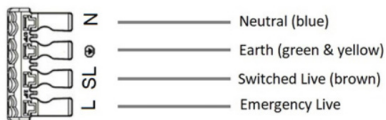

Fig. 3
- Connect to the mains supply ensuring the correct polarity is observed: L – Live, SL – Switched Live (brown), E – Earth (green/yellow), N – Neutral (blue) (see Fig. 3). The earth terminal is non-functional and only provided for convenience